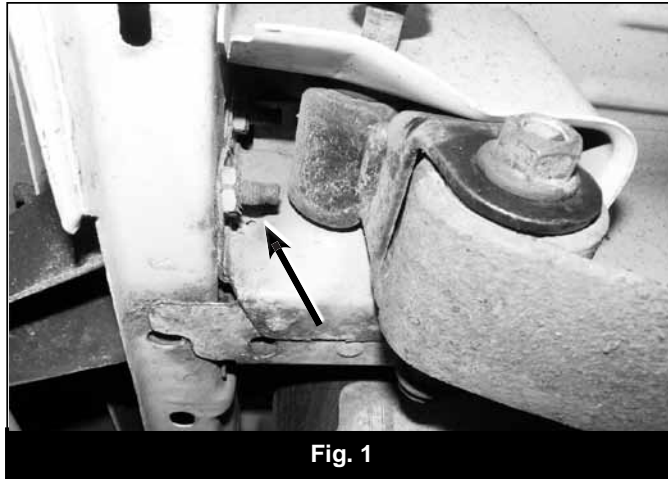

Fig. 1
6. Locate the bumper bolt that is protruding into the shackle pocket. This bolt will contact the new larger shackle through suspension travel. The bolt can either be cut off flush with the welded nut on the body or removed (Fig 1).